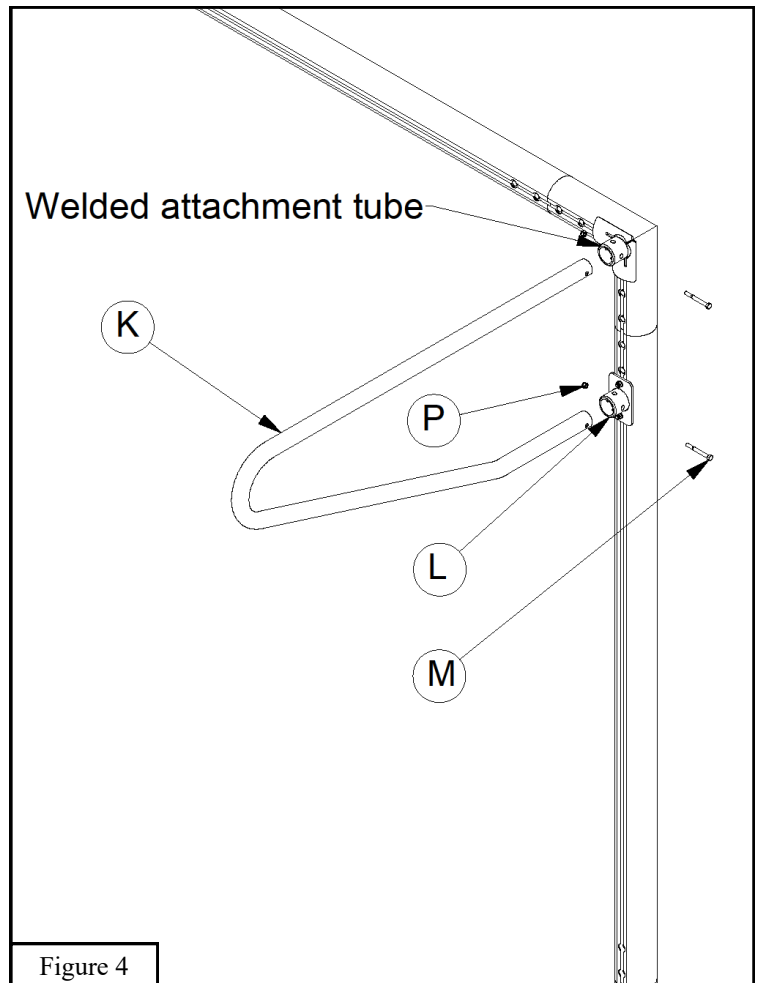

Figure 4
6. Insert each *European Backstay* (K) into the welded attachment tubes located on the Top Corners (E) and the *Backstay Mounting Brackets* (L). Install and tighten  $5/16'' \times 2 3/4''$  Hex Bolts (M) and  $5/16''$  Nylon Lock Nuts (P) at each connection point. Tighten all *Backstay Mounting Bracket* (L) hardware. See Figure 4.